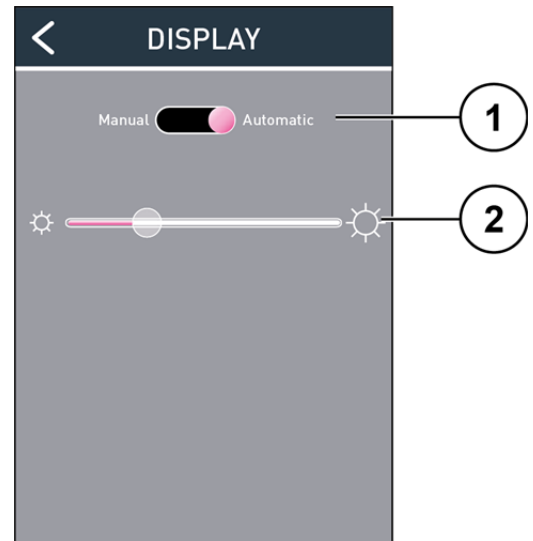

Fig. 17: Display settings
- The measured brightness is displayed under the slide switch **(1)** (Fig. 17).